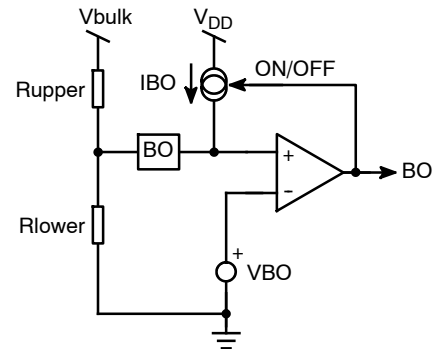

Figure 40. The Internal Brown-out Configuration with an Offset Current Source
The Brown-Out circuitry (BO) offers a way to protect the resonant converter from low DC input voltages. Below a given level, the controller blocks the output pulses, above it, it authorizes them. The internal circuitry, depicted by Figure 40, offers a way to observe the high-voltage (HV) rail. A resistive divider made of  $R_{upper}$  and  $R_{lower}$  brings a portion of the HV rail on Pin 5. Below the turn-on level, the 28  $\mu$ A current source IBO is off. Therefore, the turn-on level solely depends on the division ratio brought by the resistive divider.